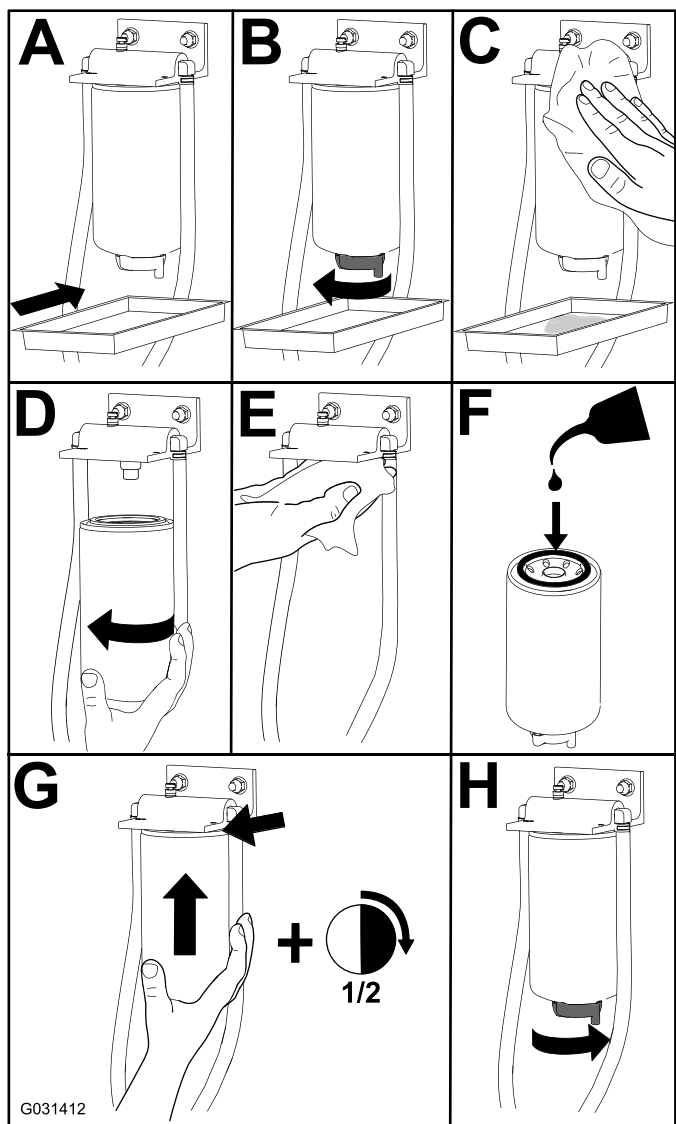

Figure 43
1. Replace the filter as shown in Figure 43.